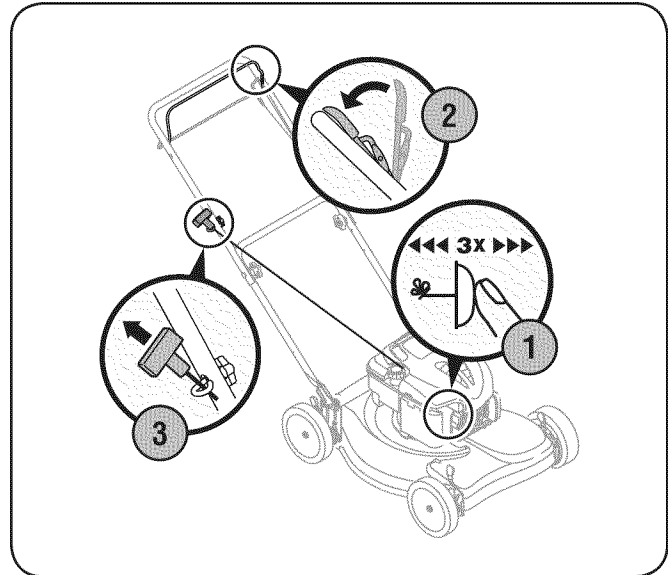

Figure 5-1
1. Push primer (if equipped) three times. Wait about two seconds between each push. See Figure 5-1. In temperature around 55° F or below, prime five times. Do not prime to restart a warm engine.
3. **Recoil Start:** Holding these two handles together firmly, grasp recoil starter handle and pull rope out with a rapid, continuous, full arm stroke. See Figure 5-1. Keeping a firm grip on the starter handle, let the rope rewind slowly. Repeat until engine cranks. Let the rope rewind each time slowly.